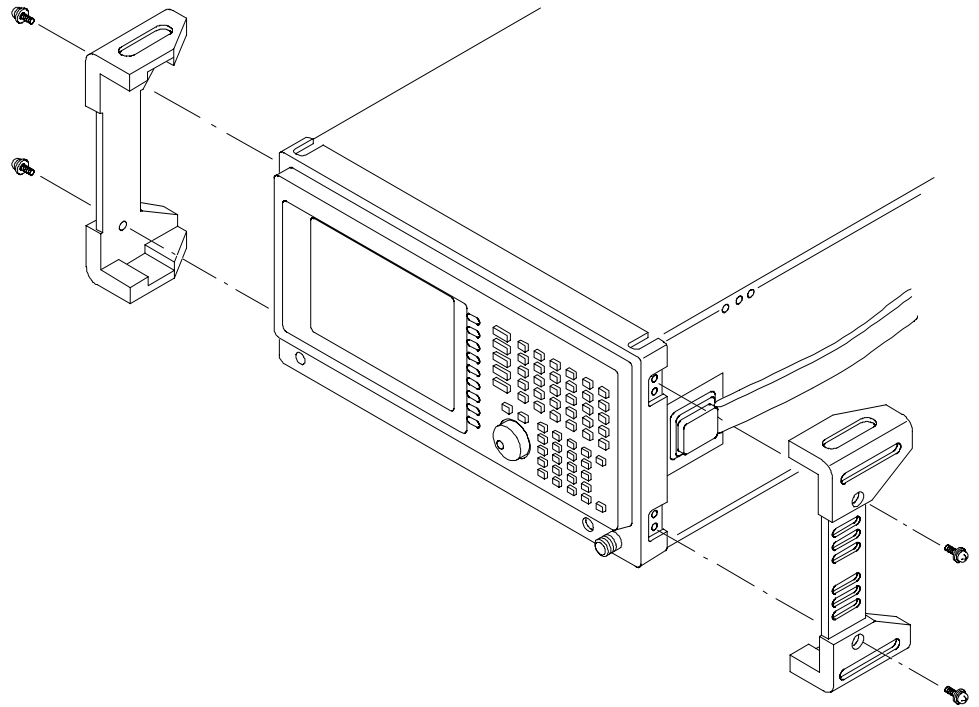

Figure 5: Removing the front cushions
- a.** Remove the two screws securing the front cushion to the side panel at each side. See Figure 5.